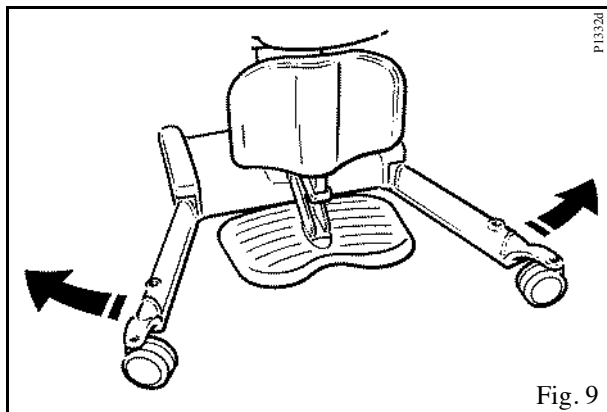

Fig. 9
**Adjustable width chassis legs:-** By operating the appropriate button on either the control handset or dual control panel on the lifter the chassis legs can be opened to any variable width (See Fig. 9). When pressure is released from the button, movement will stop and the chassis legs will remain securely in position.